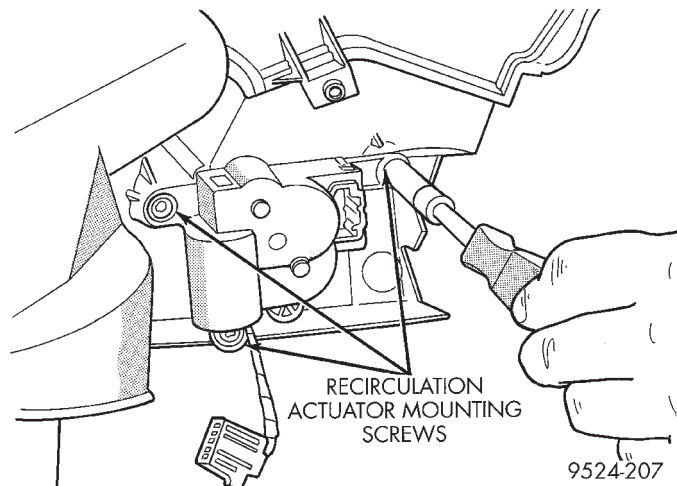

Fig. 45 Recirculation Door Actuator
- (1) Pull back on carpeting on the right lower floor.
- (2) Remove Recirc. door actuator connector.
- (3) Remove (3) mounting screws for Recirc. actuator (Fig. 45).